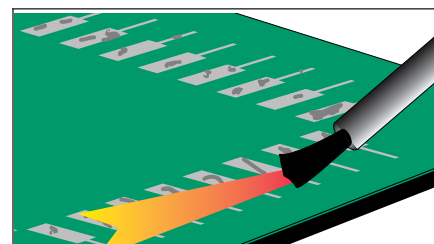

Figure 2 Apply Flux
4. Apply flux to the lands. (See Figure 2.)